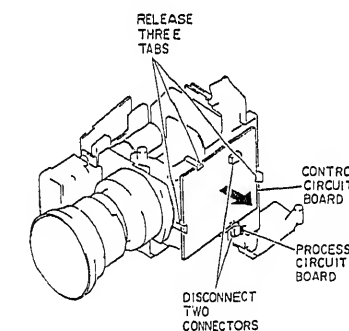

Fig. 2-13
1. Disconnect two (2) connectors (CN601, CN910). (See Fig. 2-13)
2. Release three (3) tabs holding the control circuit board.